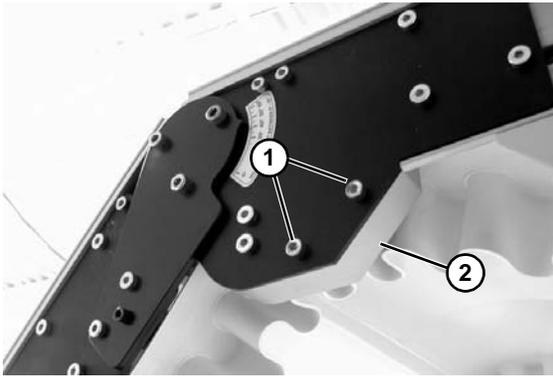

Figure 25
- If equipped, remove screws (**Figure 25, item 1**) on both sides of knuckle and remove guard (**Figure 25, item 2**).